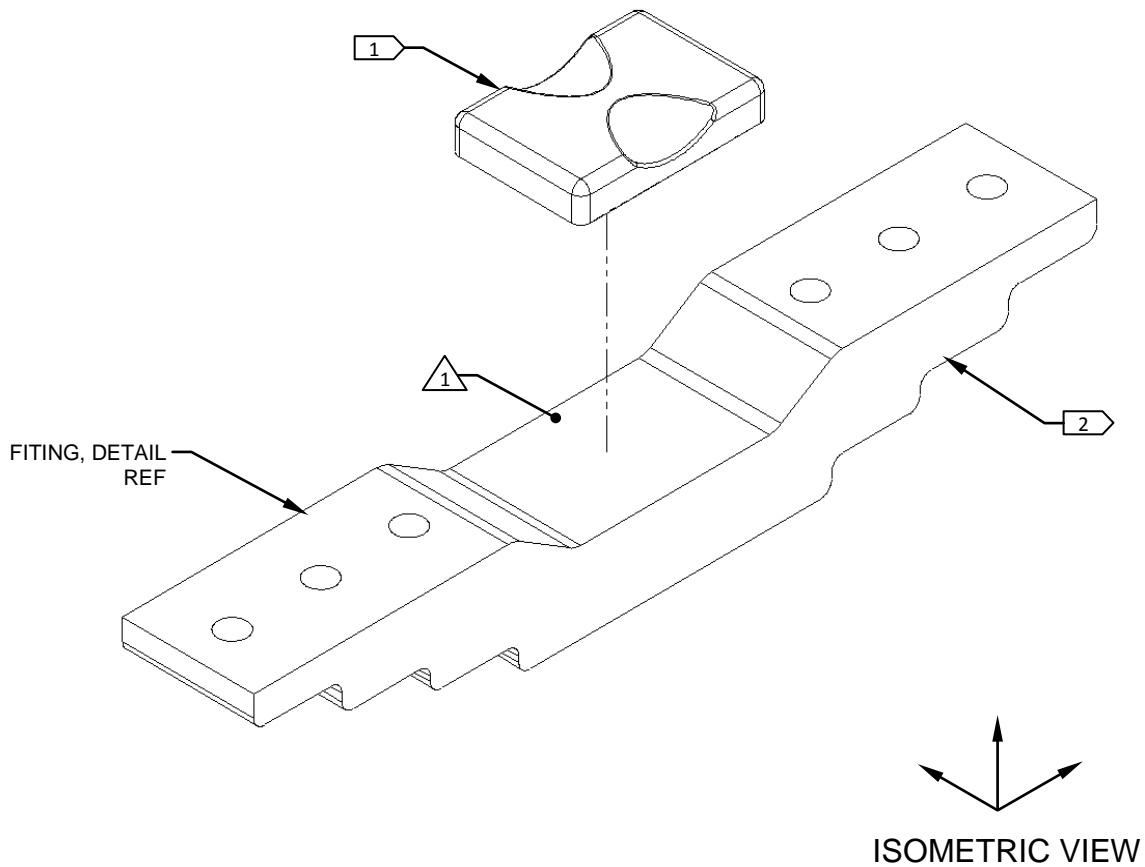

Figure 3
3. Remove the bonded rubber bumper from the Cap, Assy and discard. Reference Figure 3.